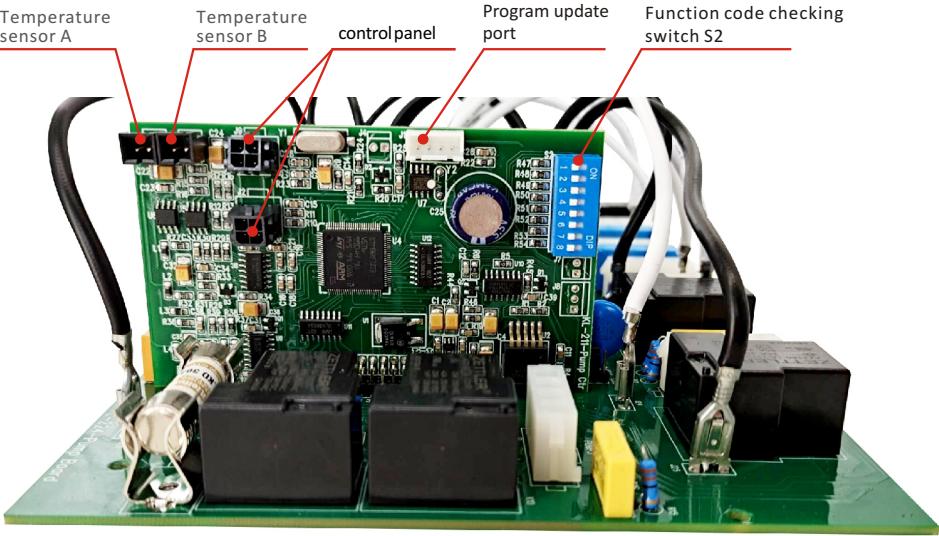

Figure 4
- 3. See Figure4 below for the control panel wiring